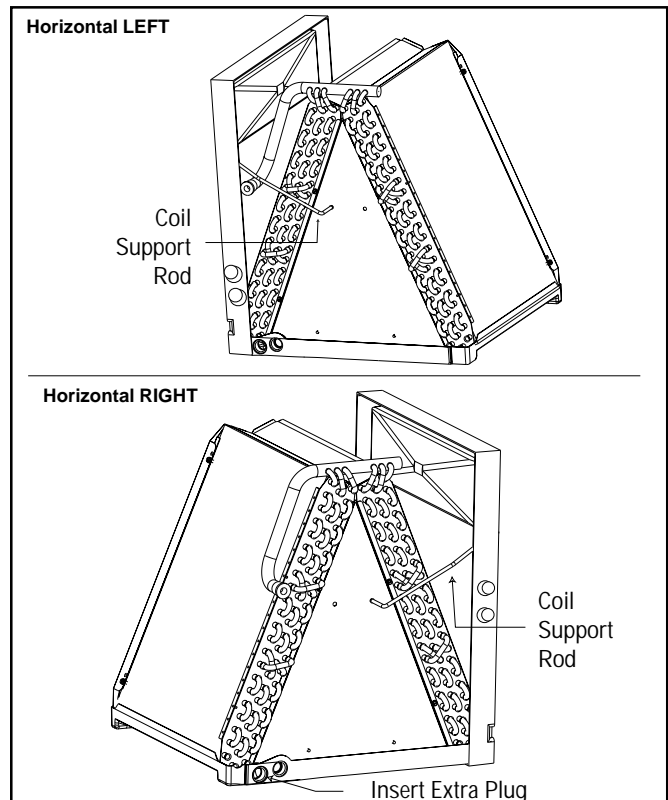

Figure 2
- 6) Insert the extra plug located in the kit into the open & unused hole in the drain pan at the bottom of the unit to block bypass air. (See Figure 2)
- 7) Attach the Horizontal Drain Pan to the coil as shown. (See Figure 2.)